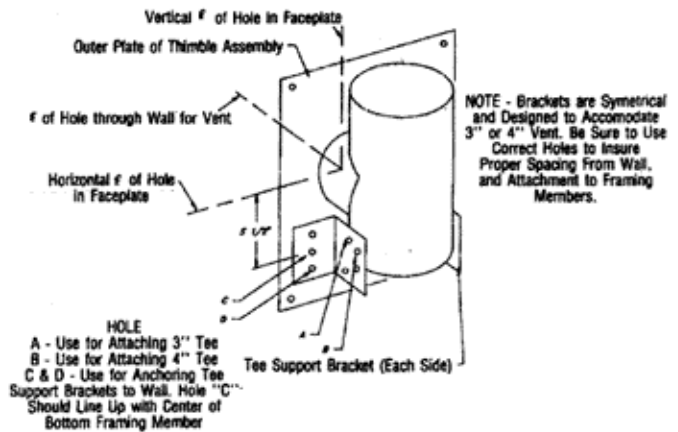

FIG. 5 TEE SUPPORT BRACKETS
1. Referring to Fig. 5, first draw a pencil line on the outer faceplate of the thimble, extending horizontally through the center of the holes.
2. Measure down 5 1/2" and draw a second horizontal line. This line, which is over the center of the lower horizontal framing member, will be used to locate the topmost screws (location "C" in Fig. 5) for the support brackets.
4. Referring to Fig. 5, orient the support brackets as shown and attach each to the bottom left and right side of the tee using a hex head screw routed through the appropriate holes in the support brackets ("A" or "B" from Fig. 5) and into the 1/8" hole provided in each side of the tee, approximately 1" up from the bottom. Rotate brackets to the approximate position shown. Engage screws partially.
8. Once properly situated, secure brackets to wall with four (4) wood screws (provided) using holes "C" and "D". Note that the top hole on